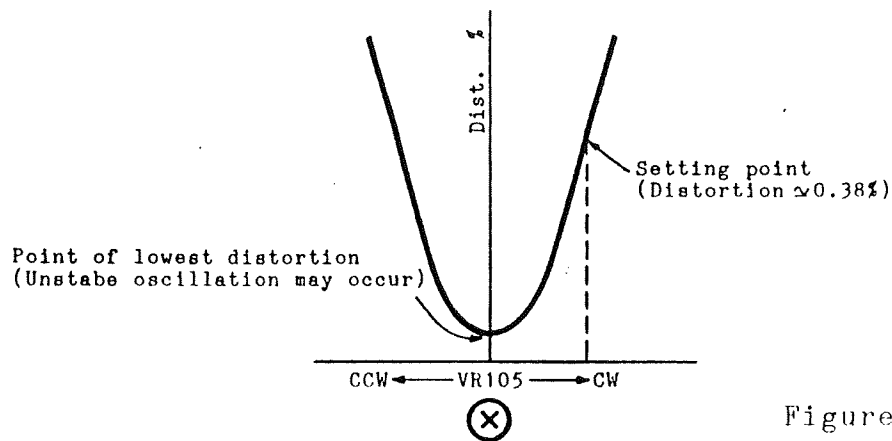

Figure 2-1
- Adjust VR103 for a distortion of approximately 0.38% as shown in Figure 2-1.